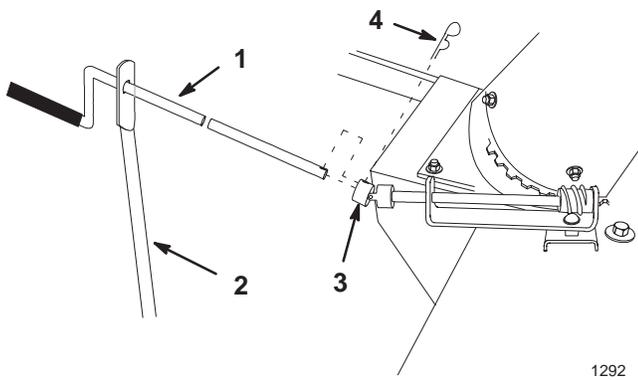

Figure 18
21. Slide the crank handle through the hole in the support and secure the handle to the U-joint with a hairpin cotter (1-7/8 in.) (Fig. 18).